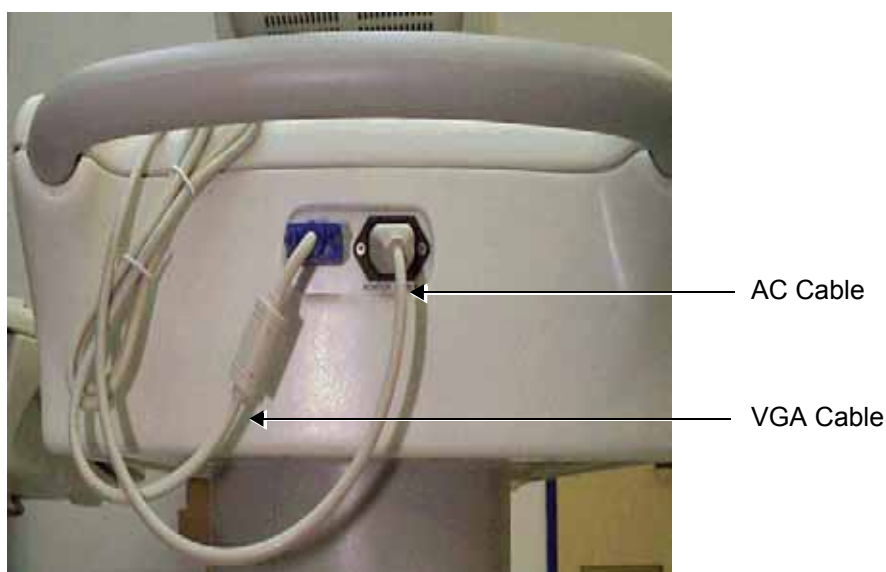

Figure 8-18 AC and VGA Cables at Rear of Control Console
- 9) Plug the AC cable and VGA cable in to the rear of the control console, as shown in Figure 8-18 on page 8-17.
- 3) Unplug the AC cable and VGA cable from the rear of the control console, as shown in Figure 8-18 on page 8-17.
- 7) Plug the AC cable and VGA cable to the rear of the control console, as shown in Figure 8-18 on page 8-17.